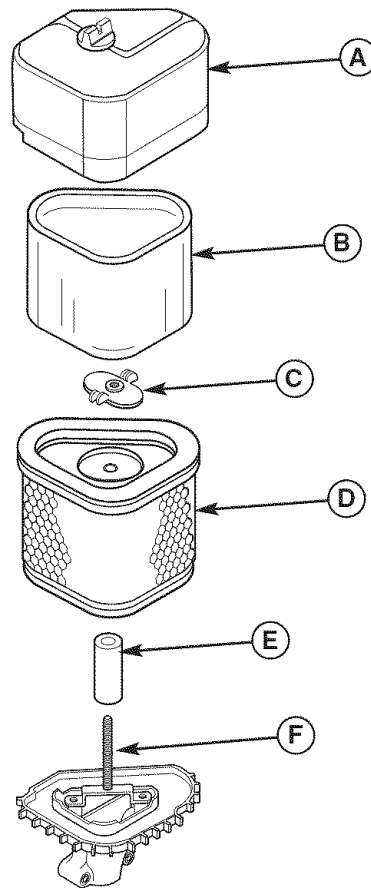

Figure 26. Air Filter Assembly
1. Loosen the air filter cover knob and remove the cover (A, Figure 26). Clean out any debris from around the air filter. Inspect the condition of the sealing surfaces of the air filter element (D) and filter base. Replace any damaged parts.
2. Remove the foam pre-cleaner (B) from the air filter element (D).
3. Wash the pre-cleaner (B) with warm water and detergent. Rinse thoroughly. Squeeze out all excess water. **DO NOT** wring out. Allow the pre-cleaner to air dry.
5. Reinstall the pre-cleaner (B) over the air filter (D).
6. Reinstall the air cleaner cover (A).
1. Loosen the air filter cover knob and remove the cover (A, Figure 26). Clean out any debris from around the air filter. Inspect the condition of the sealing surfaces of the air filter (D) and filter base. Replace any damaged parts.
2. Remove the foam pre-cleaner (B) from the air filter element. Service the pre-cleaner as described in **SERVICE AIR FILTER PRE-CLEANER** above.
3. Remove the wing nut (C). Remove and replace the air filter (D).
4. Reinstall the wingnut (C) and pre-cleaner (B).
5. Reinstall the air cleaner cover (A).